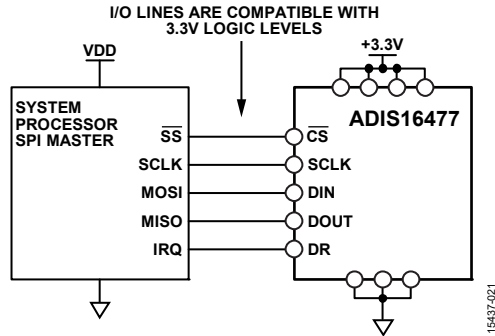

Figure 25. Electrical Connection Diagram
The SPI provides access to the user registers (see Table 8). Figure 25 shows the most common connections between the ADIS16477 and a SPI master device, which is often an embedded processor that has a SPI-compatible interface. In this example, the SPI master uses an interrupt service routine to collect data every time the data ready (DR) signal pulses.